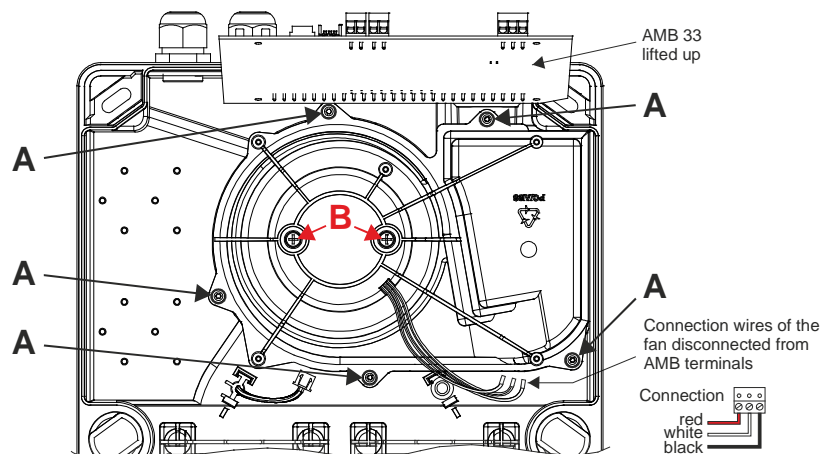

Fig. 48 Removing the aspirating fan unit
The AMB 33 main board has to be removed before the AFU 35 aspirating fan unit can be replaced. To do so, carefully unplug all the internal cable connections. Remove the fan's three connection wires from the terminals. The plug-in terminals 1 to 26 do not necessarily have to be unplugged. After removing the fastening screws on the AMB 33 using a **Torx T10 screwdriver**, the AMB 33 can be lifted up toward the cable infeeds and the fastening screws on the aspirating fan unit are then accessible. To dismantle the aspirating fan unit, remove the five screws **A** using a **Torx T15 screwdriver** (see **Fig. 48**).
- When connecting the new aspirating fan unit, take note of the wire colour coding (see **Fig. 48**).